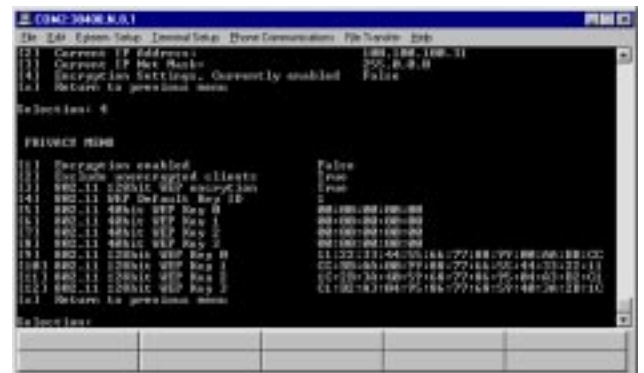

Figure 5: Privacy Menu
7. If the wireless network is going to be using WEP security codes, press Encryption Settings (4<Enter>) to enter the Privacy Menu (Figure 5) otherwise leave the setting at “False” and skip to Step 12.
9. If the bridge network is going to be using WEP security codes, press Encryption Settings (6<Enter>) to enter the Privacy Menu (Figure 5) otherwise leave the setting at “False” and skip to Step 14.
10. If the bridge network is going to be using WEP security codes, press Encryption Settings (7<Enter>) to enter the Privacy Menu (Figure 5) otherwise leave the setting at “False” and skip to Step 15.